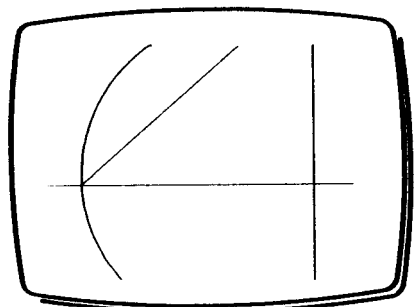

Fig 8
- 6 **Press and release T** to view the portion of the drawing enclosed by the PAN cursor, (Fig 8).